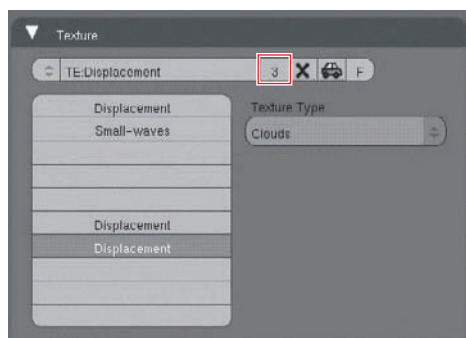
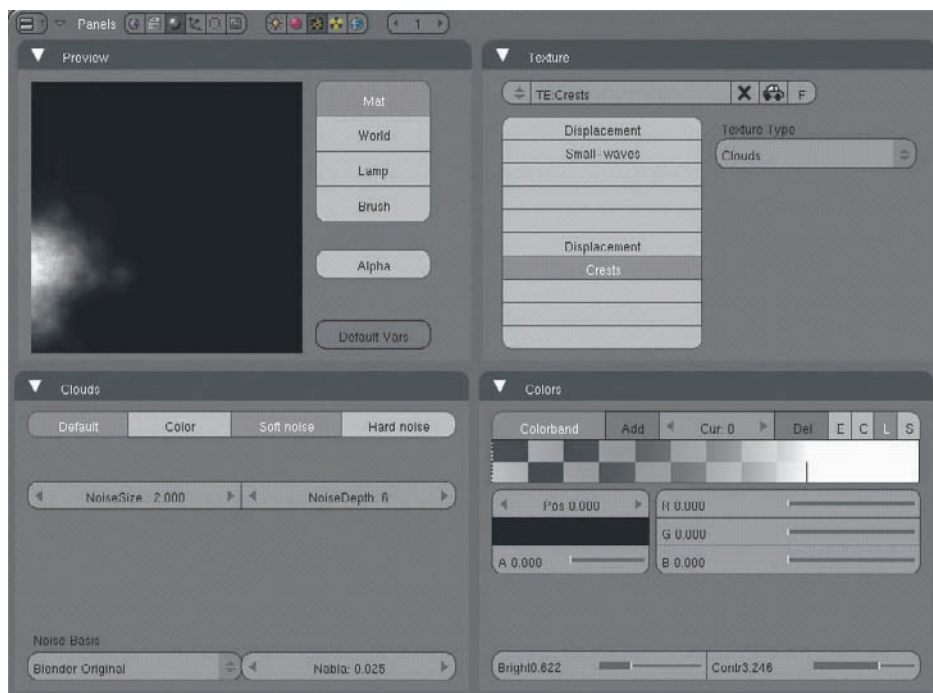
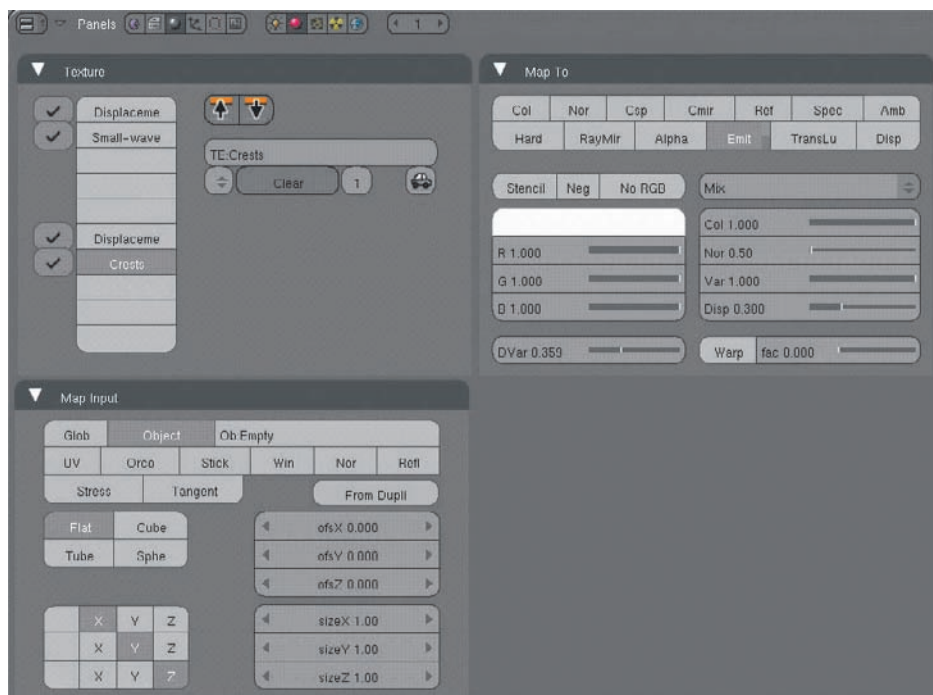

Figure 1.43
Figure 1.44 Crests texture
Figure 1.45 Crests texture mapping
8. Following the same procedure as step 7, copy the Displacement texture from channel 5 to channel 6. With channel 6 selected, go into the texture buttons. This time, you will create a separate texture by pressing the 3 highlighted in Figure 1.43 to make this texture a single- user texture. The 3 represents the number of “users” of the texture, which in this case means the number of channels that the texture is associated with. Clicking this button separates the texture you are working with from the texture associated with the other channels, creating a new, identical texture. You can edit this texture now without affecting the other channels. Rename this texture **Crests** and adjust the brightness, contrast, and colorband as shown in Figure 1.44. Map this with the Empty object also, but select Emit as the Map To value. Set DVar to about 0.359, as shown in Figure 1.45. This texture channel will give a faked translucency to higher points of the textured displacement.